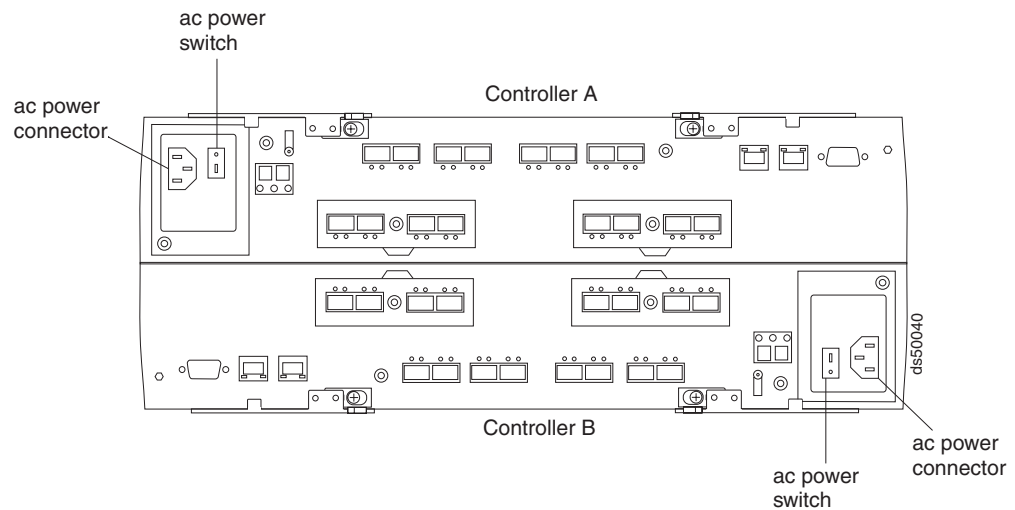

Figure 104. AC power switches on the controllers
5. Turn on the ac power switch on the back of each controller in the storage subsystem. Figure 104 shows the location of the ac power switches on the controllers.